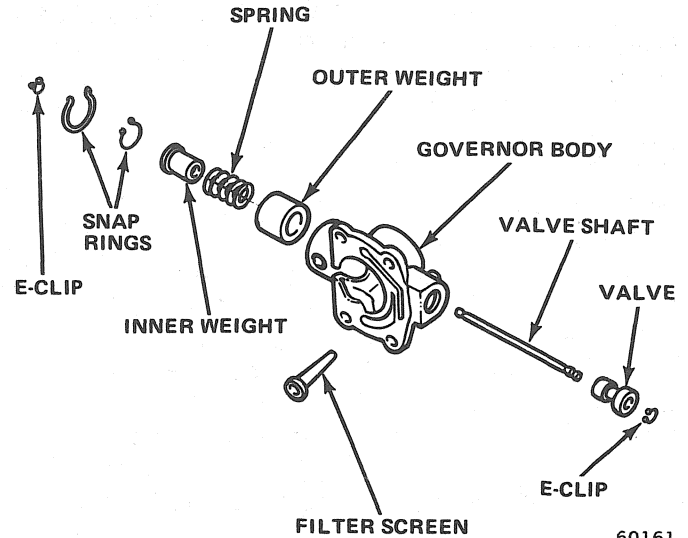

Fig. 2C-27 Governor Valve Assembly
- (1) Remove large snap ring from weight end of governor body (fig. 2C-27).
- (2) Remove weight assembly.
- (3) Remove snap ring from governor weight assembly.
- (4) Separate inner weight, spring, and outer weight. Identify spring with tag.
- (5) If park gear or governor body is to be replaced, straighten lock tabs and remove bolts attaching body to gear.
- (6) Remove governor filter.